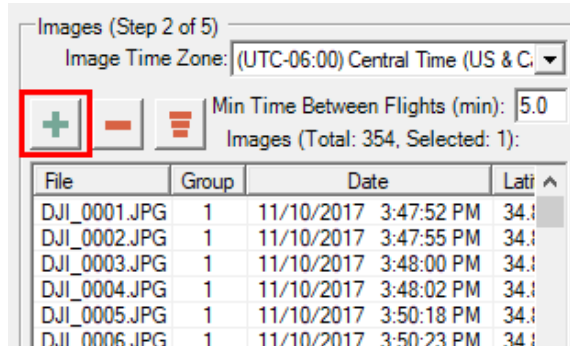

Figure 8 - Add Photos
- Select the green plus sign (Figure 8) and navigate to the photos on the aircraft. Select all photos collected during the flight, including the ground photos. If you select photos from more than one flight you will get a notification. Use the group numbers and remove photos from other flights. ASPSuite can only work with one flight at a time.